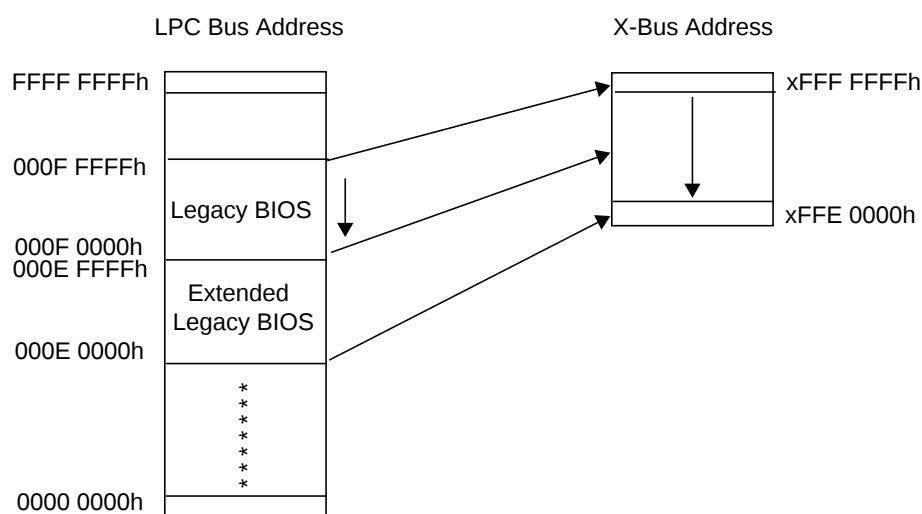

Figure 14. LPC-to-X-Bus Address Translation: Legacy and Extended Legacy BIOS Ranges
- **Legacy and Extended Legacy BIOS Range:** The 17 least significant address lines (A16-0) of the LPC address are routed as the 17 least significant address signals of the X-Bus (XA16-0). The upper 11 X-Bus address lines are driven to '1'. This shifts the addresses to the top of the X-Bus memory space (see Figure 14).